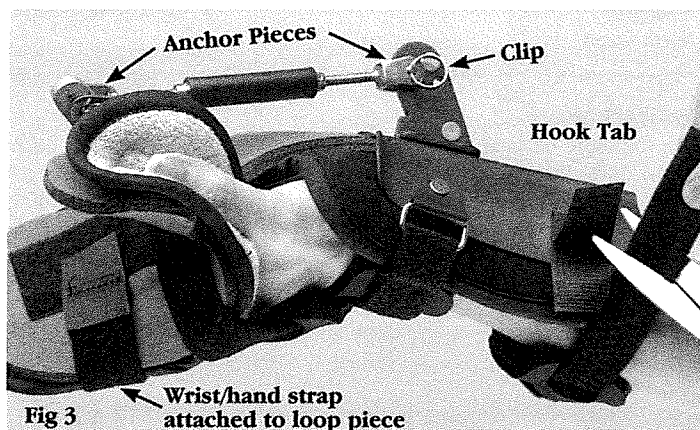

Fig 3
- Cinch and attach the hook end of the D-ring straps to fit comfortably. Slide padding pieces on the strap to increase comfort over exposed areas. Straps can be trimmed at the hook tab ends (Fig 3).
- To gain greater wrist extension, move the turnbuckle to different locations on the anchor piece. Simply disconnect the clip and pin holding the turnbuckle and move them to a different (i.e. distal) hole in the anchor piece. (Fig 3)